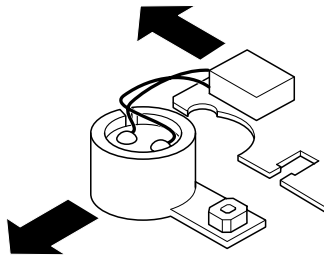

Figure 5: Microphone removal
5. Figure 5 Remove the Microphone from the Chassis